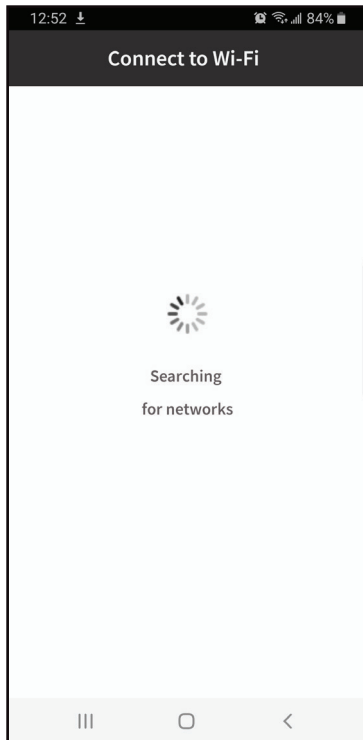

Fig. 7
5. Select desired Wi-Fi and connect by entering the Wi-Fi password of your home (Fig. 7 & 8).